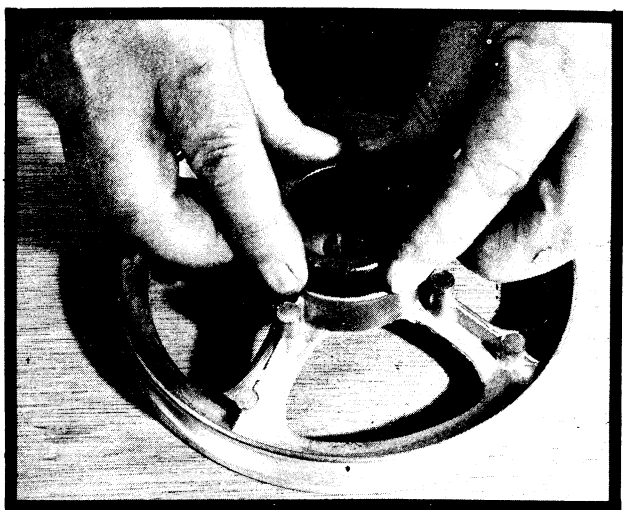

Figure 72.
- Using fingers, carefully start seal into cavity, *Figure 72*.